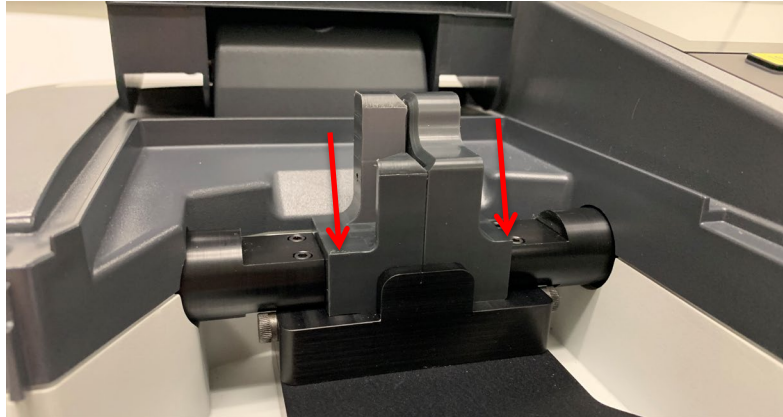

Figure 9: Dosimeter holder fits into the baseplate.
11. Test the fit of the dosimeter holders into the pocket. See *Figure 9*.